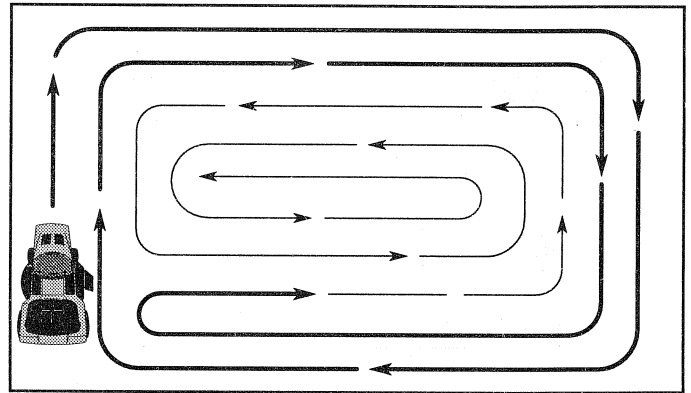

FIG. 9
- When mowing large areas, start by turning to the right so that clippings will discharge away from shrubs, fences, driveways, etc. After one or two rounds, mow in the opposite direction making left hand turns until finished (See Fig. 9).